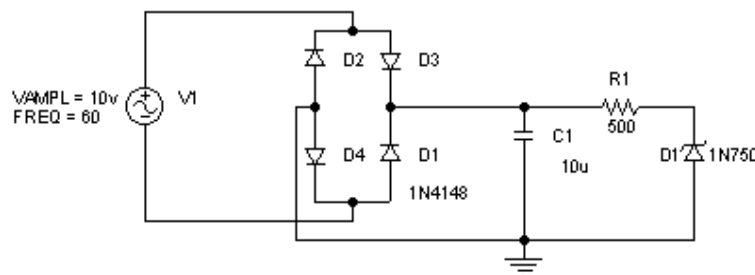

Figure 2-4: Voltage-regulated power supply
Ripple Voltage: Ripple voltage is a parameter associated with rectifier circuits with bypass capacitors, e.g., C1 in the circuit shown in Fig. 2-4. Such circuits are better known as **power supplies**. The ripple voltage is defined as the peak-to-peak (pp) voltage of the waveform seen at the output node of a power supply when an external load is connected – the impedance of the load will influence the magnitude of the ripple voltage. Typically, the ripple voltage is inversely proportional to the load impedance.
In general, the ripple voltage is seen by the load as noise. In order to minimize that noise we can add an additional circuit, the **voltage regulator**, to the rectifier. The simplest regulator is the combination of a resistor and a zener diode. Using the voltage regulator we can assure the delivery of a better DC voltage to the load. The circuit in Fig. 2-4 shows the configuration that combines a rectifier with a bypass capacitor (C1) to make a power supply, and then the power supply with a voltage regulator (R1 and zener) to finally obtain a circuit called **voltage-regulated power supply**.
6. Build the circuit shown in Fig. 2-4 and measure the DC (average) and AC (rms and pp) voltages at the zener terminals. Attach a resistor box in parallel to the zener, start with a big value 220k, and then reduce the resistance until you see an output **DC voltage** of 90% of its value without the load. Record the value of the resistor.